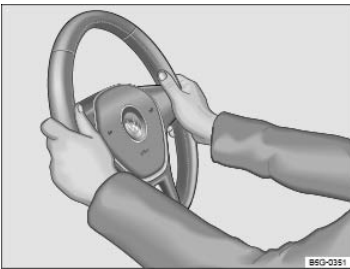

Fig. 68 Steering wheel: 9 o'clock and 3 o'clock positions.
- Adjust the steering wheel so that it can be held with hands at the 9 o'clock and 3 o'clock positions on the outside of the steering wheel rim and with the arms slightly bent at the elbow ⇒ Fig. 68.
- Always hold the steering wheel on the outside of the steering wheel rim with your hands at the 9 o'clock and 3 o'clock positions ⇒ Fig. 68 to help reduce the risk of serious personal injury if the driver's airbag inflates.